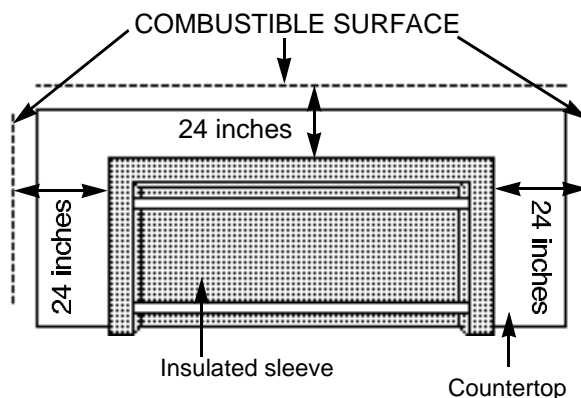

Figure 2
**Warning:** Clearance from the outside walls of the sides and back of the insulated sleeve must be a minimum of 24 inches from a combustible surface. Measure from the outside wall of the insulated surface to the combustible surface. Figure 2. Refer to "Install Gas Supply" on page 2 before starting installation.